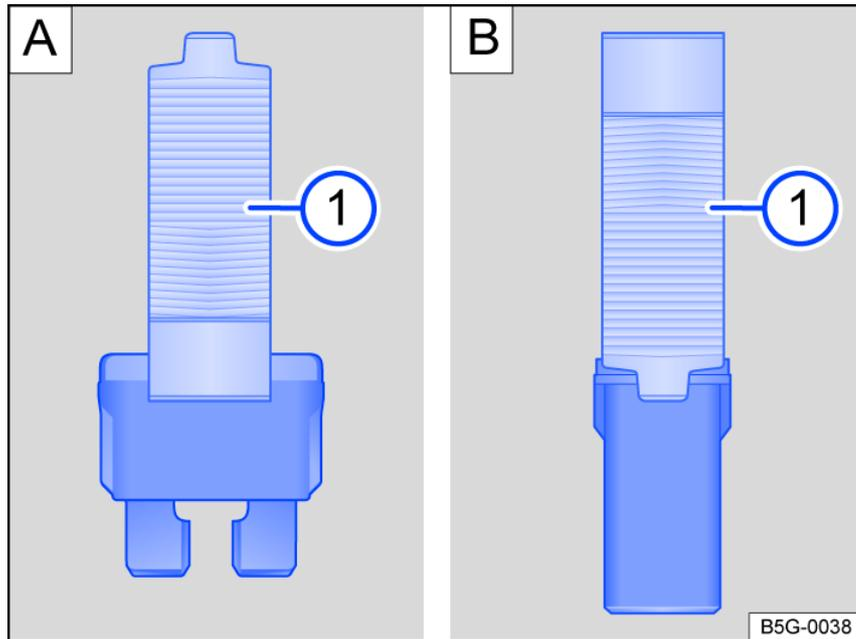

Fig. 188 Remove or install a fuse with the plastic pliers (general example).
① Plastic pliers.
1. Remove plastic tongs from either the fuse box or the cover of the fuse box *fig. 188* ①.
2. Depending on the design of the fuse, slide the appropriately sized clamp on the plastic pliers onto the fuse from above or from the side *fig. 188*.
4. If a fuse is blown, replace with a fuse with the *same* rating (same color and same label) and the *same* size ⇒ ②.